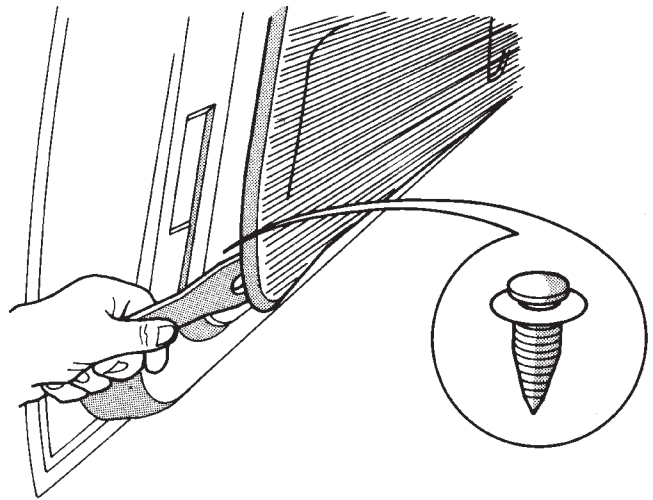

Fig. 13 Detaching Trim Panel Serrated Retainers
(7) Remove the trim panel retainers from door inner panel with a pry tool (Fig. 13).